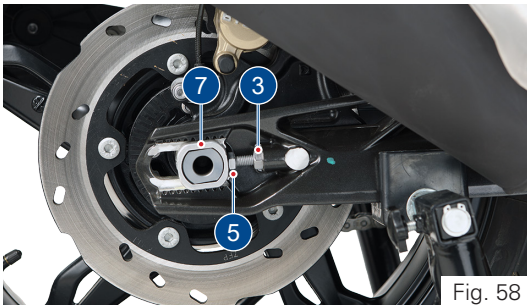

Fig. 58
- Assemble the speed sensor (2) and mounting screw (1) in rear caliper (ref. Fig. 58).